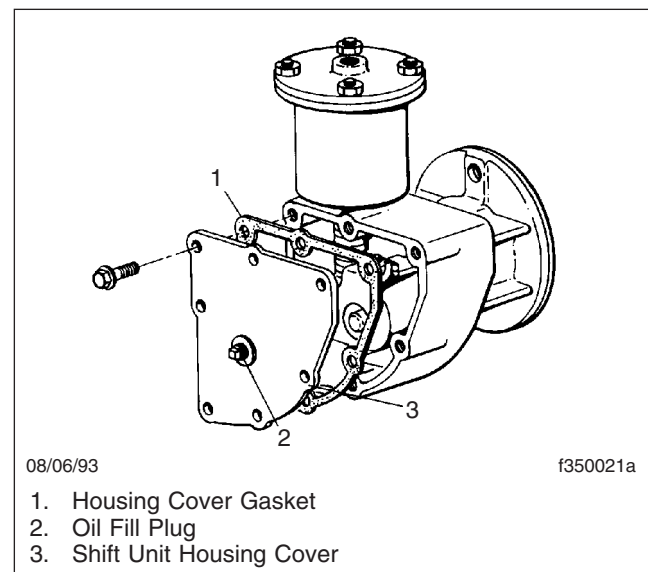

Fig. 6, Two-Speed-Axle Shift Unit
1. Remove the shift unit housing cover. See **Fig. 6**. Drain and discard the old lubricant. Discard the housing cover gasket.
1. Clean the shift unit oil fill plug, and the area surrounding the plug. See Fig. 6. Turn the fill plug counterclockwise to remove it.